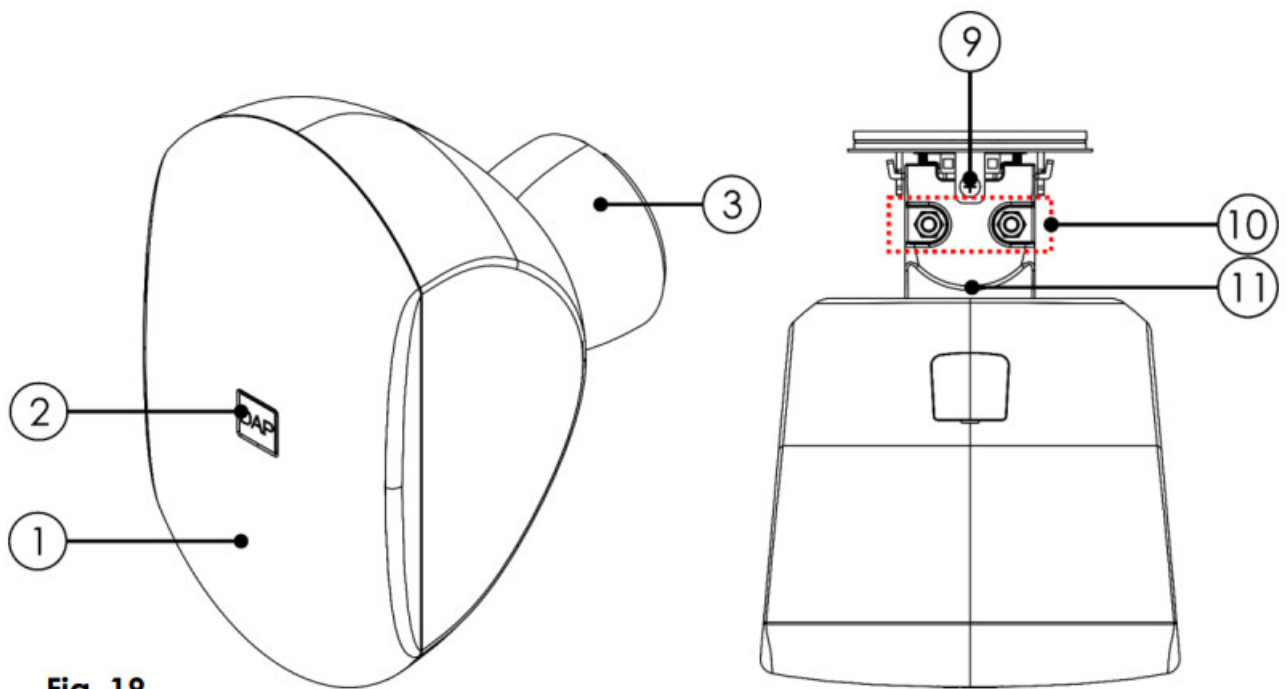

Fig. 19
1. Fold the rubber ball-joint cover (03) to get access to the adjustment screws (10).
2. Loosen the adjustment screws (10) with the hex key (Fig. 19).